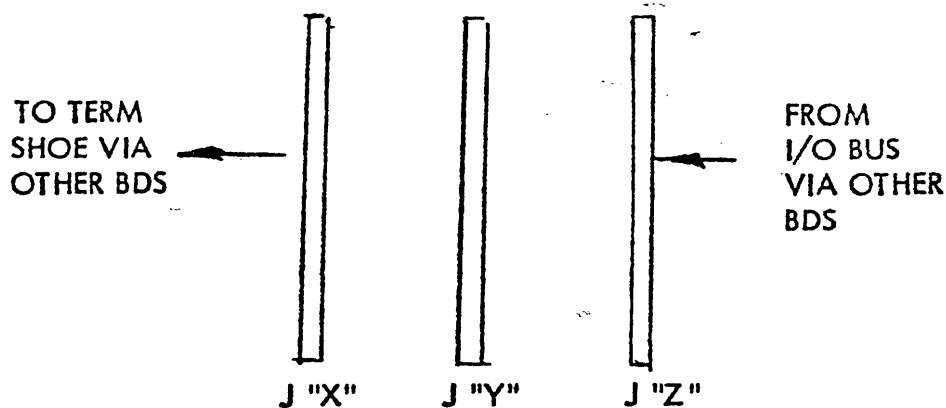

Figure 1
3. Delete the following wires: (Ref. Figure 1 below)